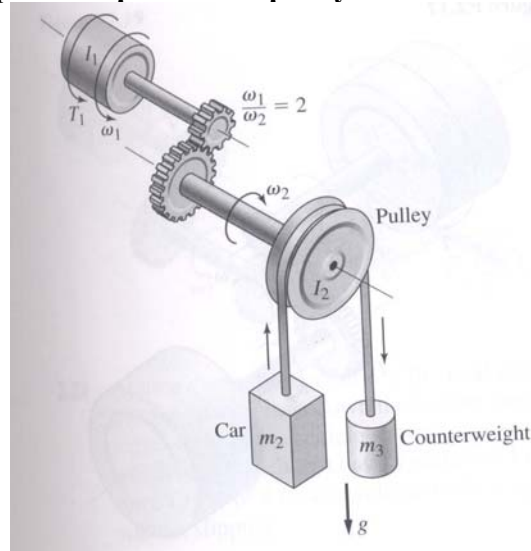

Figure 3
3. The geared system shown in Figure 3 represents an elevator system. The motor has an inertia I_1 and supplies a torque T_1 . Neglect the inertias of the gears, and assume that the cable does not slip on the pulley. Derive an expression for the equivalent inertia I_e felt on the input shaft (shaft 1). Then derive the dynamic model of the system in terms of the speed ω_1 and the applied torque T_1 . The pulley radius is R .